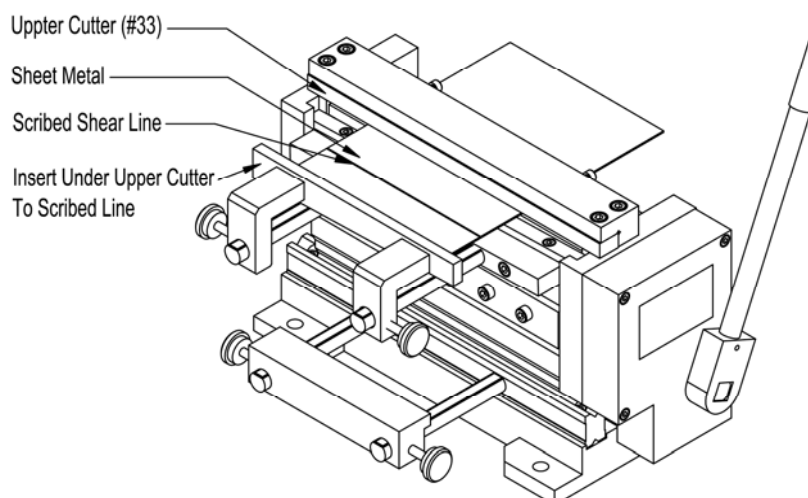

Figure 8 – Inserting scribed Sheet Metal
Step 3: Slide the material between the UPPER CUTTER (#33) and the LOWER CUTTER (#31) so that the UPPER CUTTER is positioned directly above the mark as shown in Figure 8.